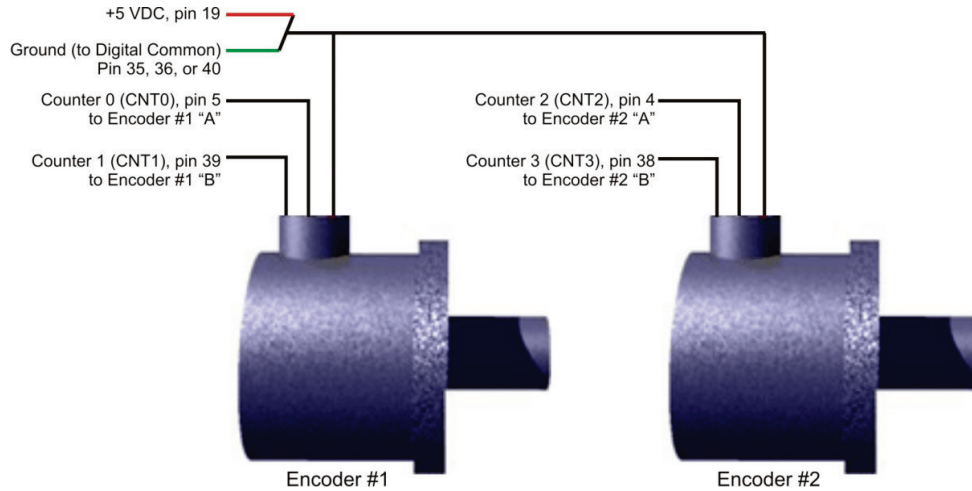

Figure 15. Two encoders connected to pins on the SCSI connector\*
**Wiring for two encoders:** Figure 15 shows the single-ended connections for two encoders. Differential connections do not apply.